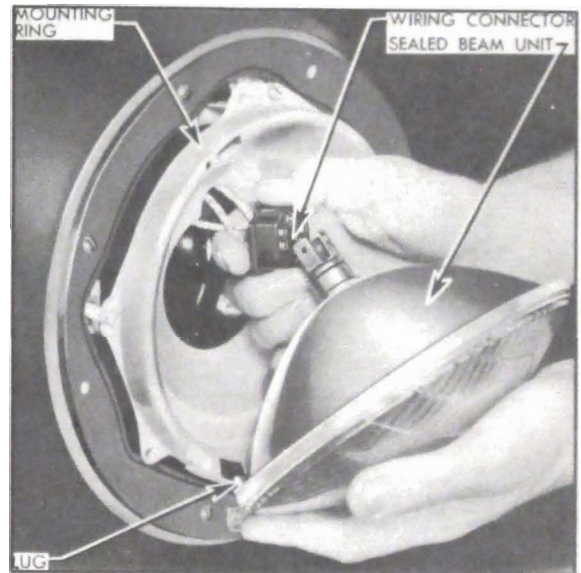

Figure 10-87—Installation of Headlamp Sealed Beam Unit
4. Install new sealed beam unit by reversing removal procedure. The lens is marked "TOP" and the reflector has three lugs which fit into notches in the headlamp mounting ring. See figure 10-87. Before installation of headlamp door, adjust headlamp for proper aim as described below.